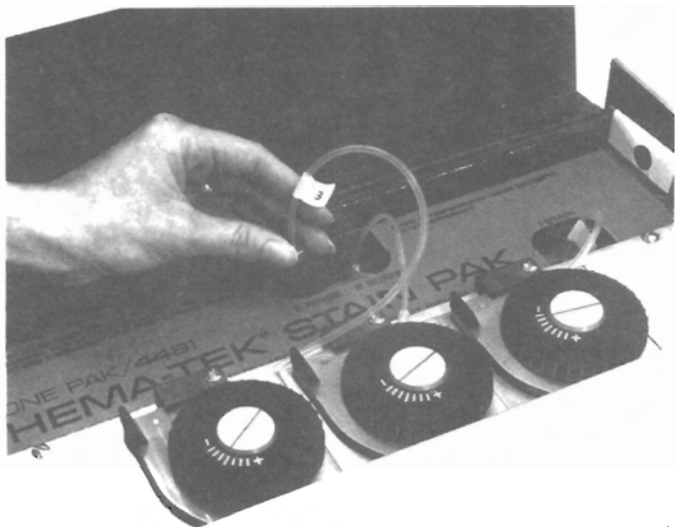

Figure 3-3
STEP 3 Remove two perforated tabs on new Stain Pak carton. Insert each cannula in its respective bottle by puncturing centers of the inverted cones on bottles (Figure 3-3). Push cannulas down until the guard at top just touches the plastic container.